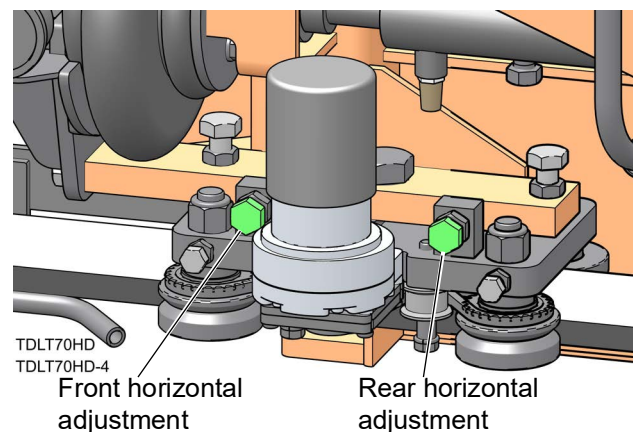

FIG. 9-4
8. Loosen the horizontal adjustment bolt jam nuts. See FIG. 9-4.